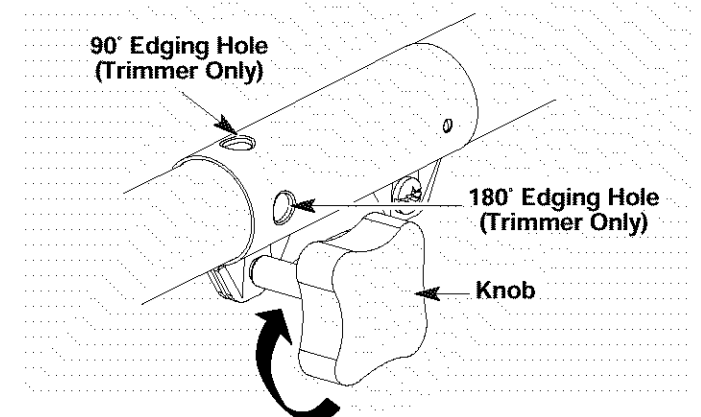

Fig. 8
3. Turn the knob clockwise to tighten (Fig. 8).
For edging (when using the line head cutting attachment with EZ-Link™ models), lock the release button of the cutting attachment into the **90° edging hole** or the **180° edging hole** (Fig. 8).